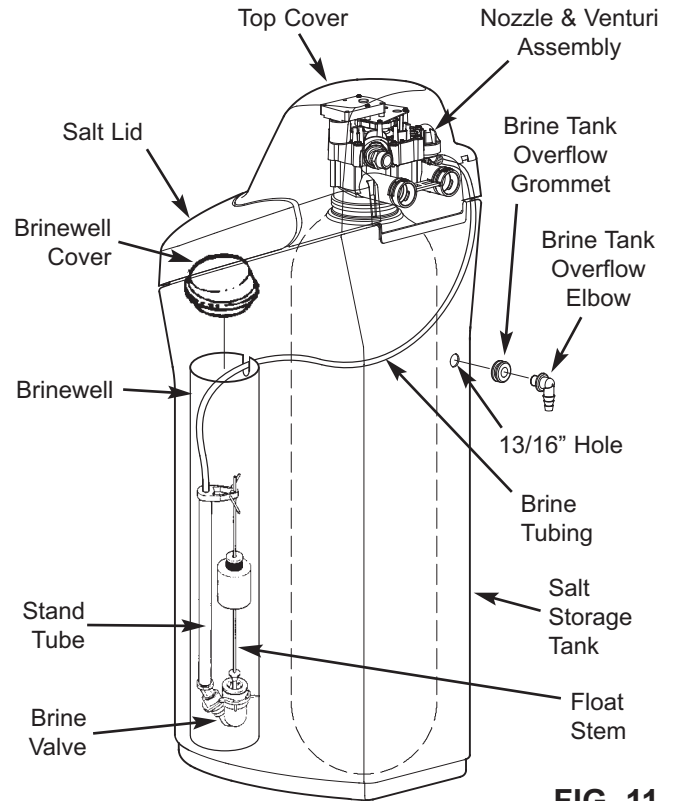

FIG. 11
1. North Star models are factory assembled. During installation, unsnap and remove the top cover, together with the salt lid, to expose the softener valve assembly. Set them aside to prevent damage. Check the brinewell to be sure it is secured and vertical (See Figure 11).